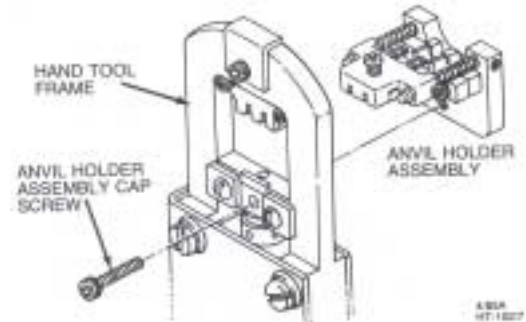

Figure 10
- 1 Remove the cap screw securing the anvil holder assembly to the hand tool (see Figure 10). Then remove the anvil holder assembly.